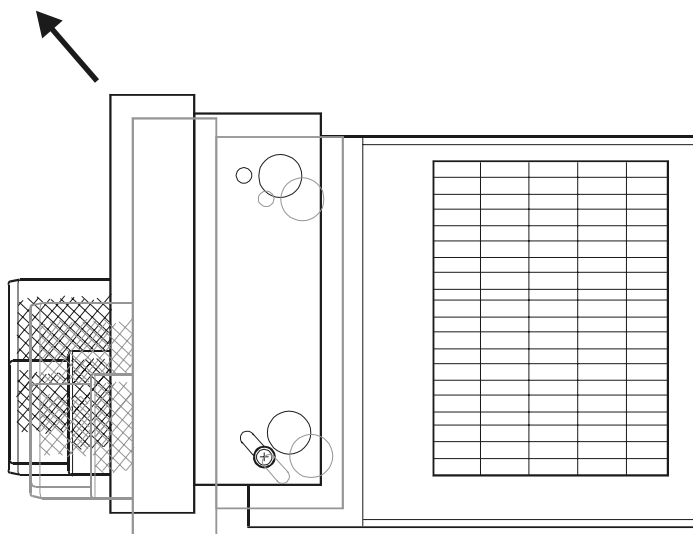

Figure 4
6. Refer to Figure 4, and slide the front panel diagonally upward and outward, then fold the front panel forward to expose the Control Unit behind it.